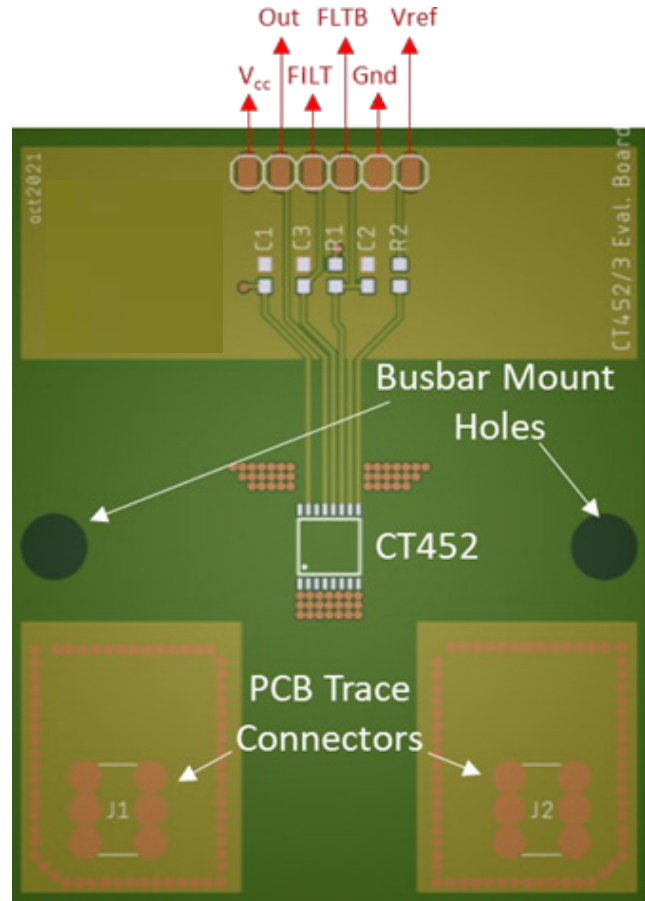

Figure 1: CTD453 Evaluation Board
The CTD453, shown in Figure 1, is powered by applying a 3.3 V bias voltage between the VCC and GND pins. The analog output voltage of the sensor is accessed through the OUT pin. The VREF and FLT pins on the PCB provide access to the VREF and FLT pins on the integrated circuit (IC).